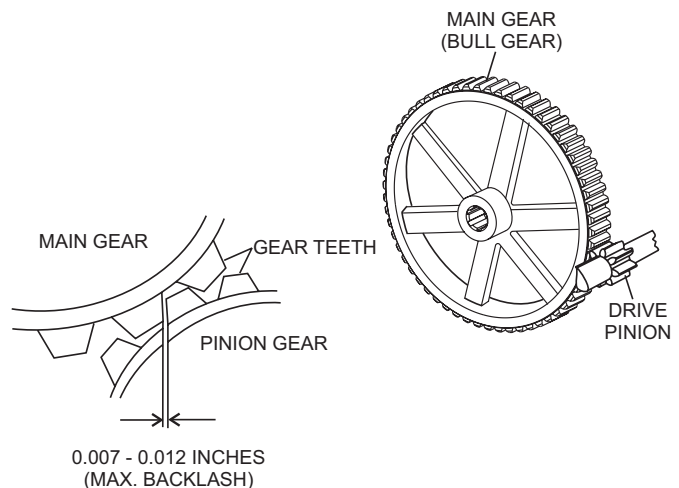

Figure 47. Drive Pinion and Main Gear (Backlash)
3. Using your hand, slightly move (rock) the drive pulley back and forth to determine the amount of backlash. Insert a feeler gauge between the gears to determine the backlash distance. Backlash should range between 0.007–0.012 inches (Figure 47).